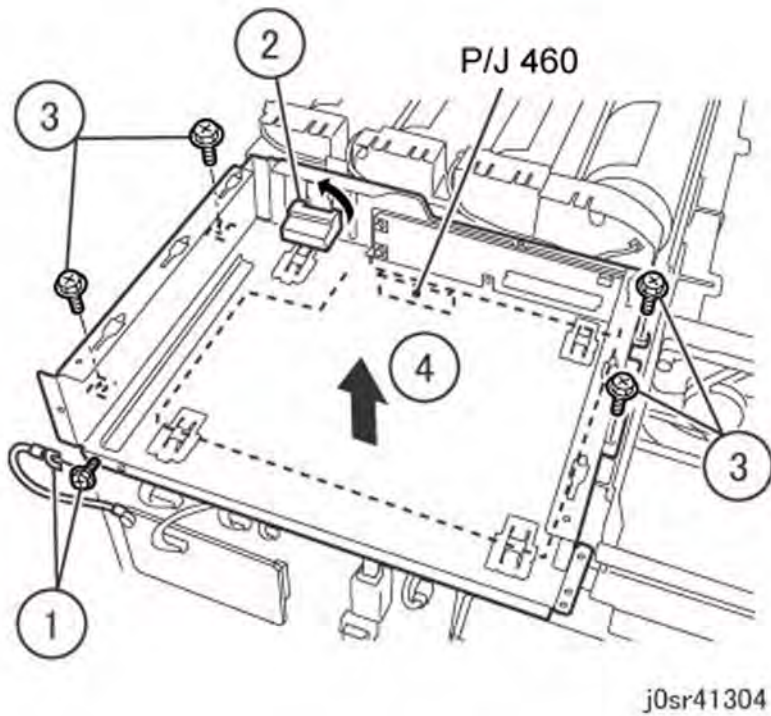

Figure 3 Removing the ESS PWB Chassis
6. Remove the ESS PWB Chassis (Figure 3).